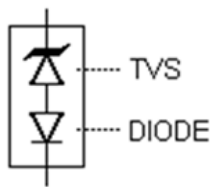
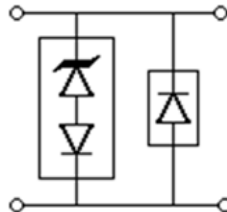
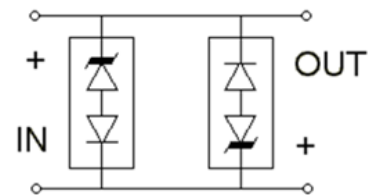

Figure 4
Figure 5
Figure 6
* TVS devices are not typically used for dc power dissipation and are instead operated $\leq V_{WM}$ (rated standoff voltage) except for transients that briefly drive the device into avalanche breakdown (V_{BR} to V_C region) of the TVS element. Also see Figures 5 and 6 for further protection details in rated peak pulse power for unidirectional and bidirectional configurations respectively.
The TVS low capacitance device configuration is shown in Figure 4. As a further option for unidirectional applications, an additional low capacitance rectifier diode may be used in parallel in the same polarity direction as the TVS as shown in Figure 5. In applications where random high voltage transients occur, this will prevent reverse transients from damaging the internal low capacitance rectifier diode and also provide a low voltage conducting direction. The added rectifier diode should be of similar low capacitance and also have a higher reverse voltage rating than the TVS clamping voltage V_C .
If using two (2) low capacitance TVS devices in anti-parallel for bidirectional applications, this added protective feature for both directions (including the reverse of each rectifier diode) is inherently provided in Figure 6. The unidirectional and bidirectional configurations in Figure 5 and 6 will both result in twice the capacitance of Figure 4.